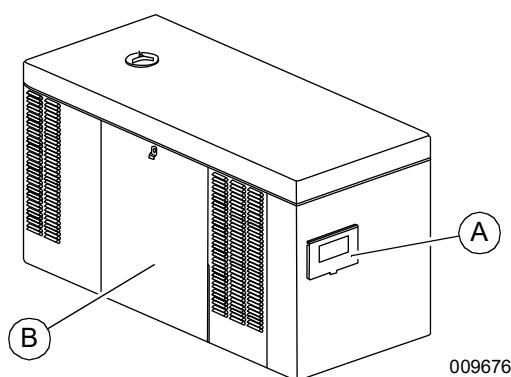

Figure 3-1. Enclosure (Rear Left View)
See **Figure 3-1**. The viewing window (A) side of the enclosure is identified as the rear of the generator set. The right and left sides are identified by standing at the rear and looking towards the front of the unit. The battery is located on the left side of the unit (B).